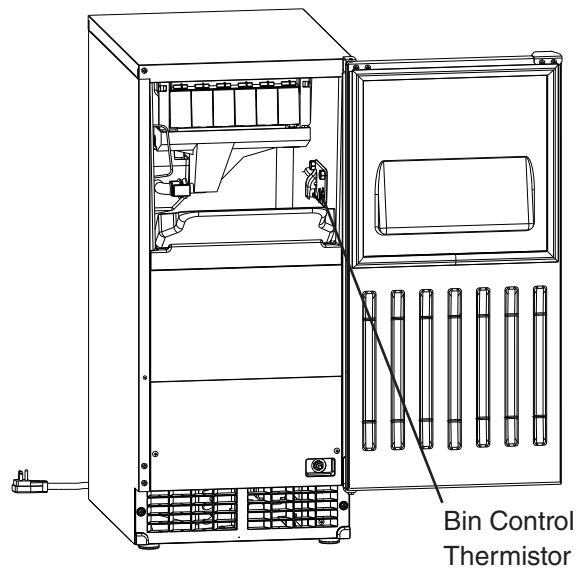

Fig. 34
- 11) During the first 5 minutes of the freeze cycle (compressor energized), confirm bin control operation by holding ice in contact with the bin control thermistor. See Fig. 34. The appliance shuts down within 30 sec. Remove the ice. After 30 sec. the appliance restarts the automatic icemaking process.